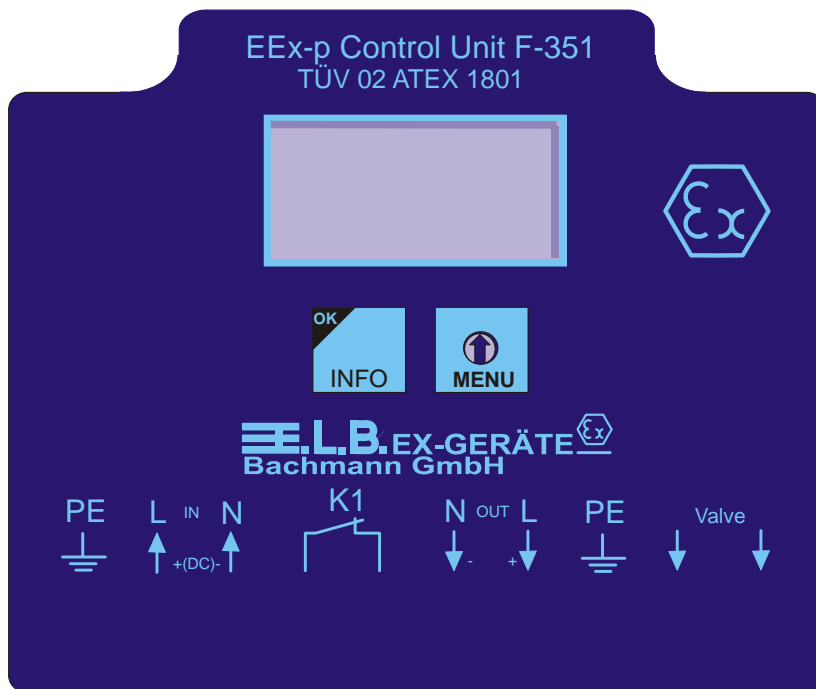

Fig. 7: Front cover panel of the controller
2. Switch the Wheel Shuttle to the „one o'clock“ position (one step clockwise from the position shown in figure 7).